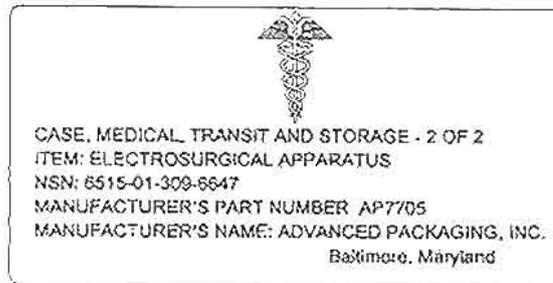

Figure 1-24. Case manufacturer identification card.
(10) The canvas case manufacturer identification card (located in a plastic holder on the front of the case) is depicted in figure 1-24.